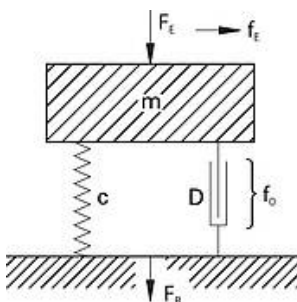
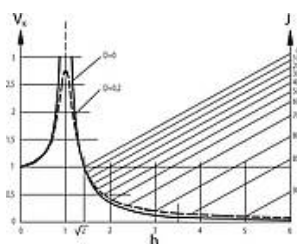

Figure 2: Vibration isolation of a dynamic system
Figure 3: Force transmission factor as a function of the frequency ratio
**Figure 2** schematically shows such a system with isolation. Of practical interest is the transmitted force  $F_R$  output and the ratio of this force to the original input force. This ratio, called force transmission factor  $V_K$ , is shown in **Figure 3** as a function of the frequency ratio  $\eta = \frac{f_E}{f_0}$ .